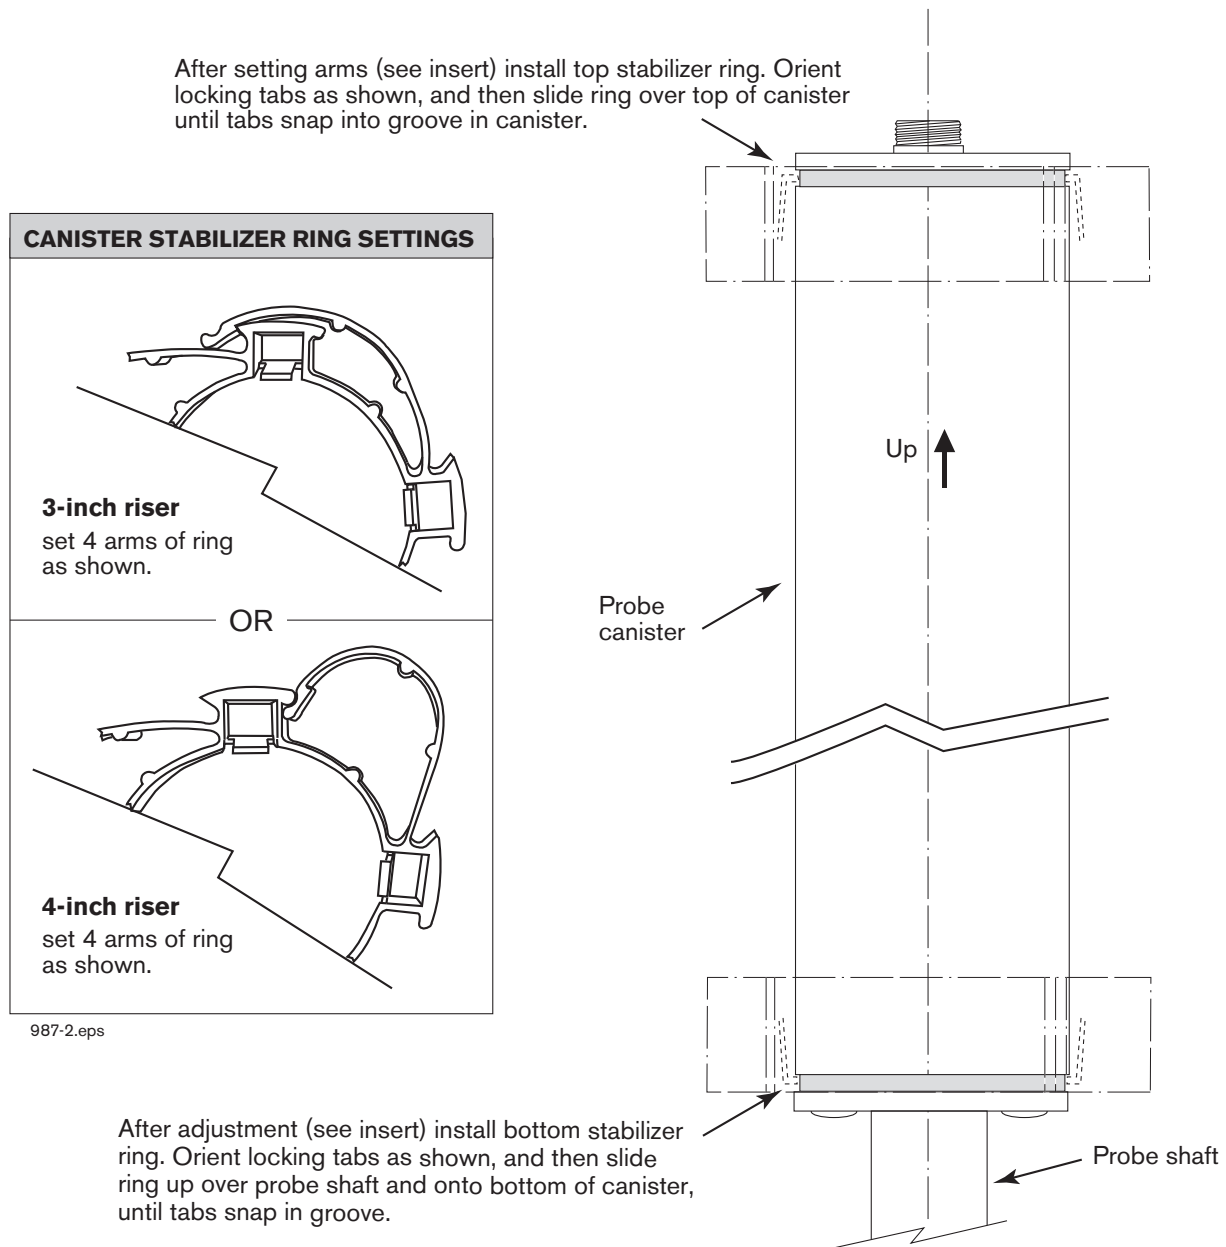

Figure 3. Installing Probe Canister Spacer Rings
2. Set the adjustable arms of the rings for a 3- or 4-inch riser (see Figure 3) as required. Install the two stabilizer rings onto the probe canister as shown in the figure. Note: you must slide the bottom ring up over the probe shaft and onto the lower end of the canister.